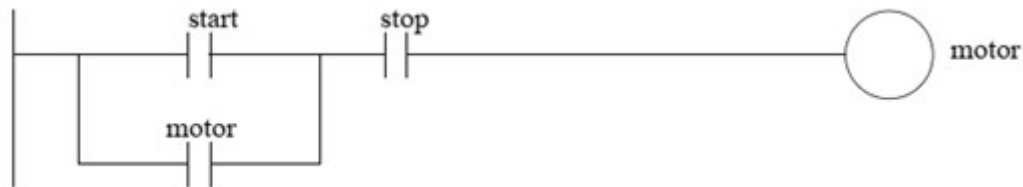

Figure Q3b
- b) Consider a case where an input to a Programmable Logic Controller (PLC) is a normally closed stop button. The contact used in the ladder logic is normally open as shown in **Figure Q3b**. explain why they are not both the same.